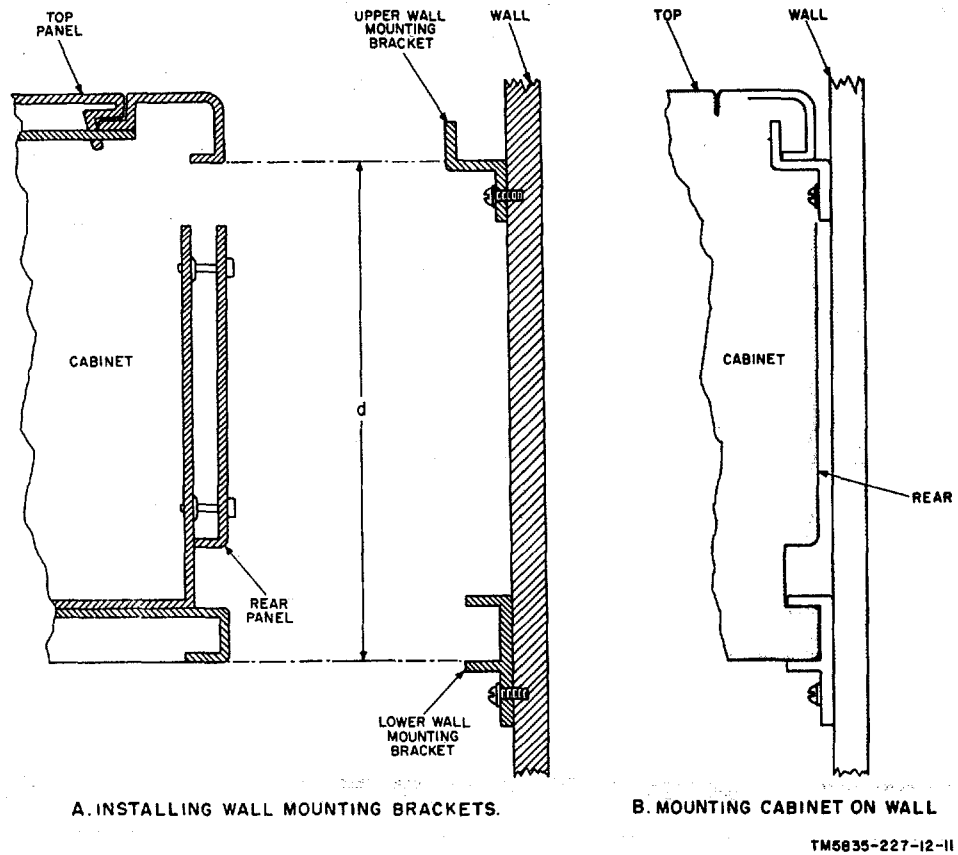

Figure 14. Recorder-Reproducer Set, Sound AN/GSH-17 wall installation.
b. To wall mount the recorder-reproducer set, refer to figure 14 and proceed as follows:
- (1) Locate the brackets in accordance with the installation instructions for the vehicle in which it is to be installed.
- (2) Make a measurement of dimension d (A, fig. 14) at the rear of the cabinet.
- (3) Determine the wall location (height above floor) for the upper bracket, and, using the upper bracket as a template, scribe three marks on the wall at the desired position and center punch for drilling. Make sure that the three markings are horizontal (level).
- (4) Drill holes with a No. 7 drill bit.
- (5) Tap the holes with a size 1/4 inch by 20 tap.
- (6) Mount the upper wall bracket as shown in A, figure 14; use three size 1/4 inch by 20 bolts and washers and tighten securely.
- (7) Use the measurement obtained in (2) above, and locate the position of the lower wall bracket by referring to A, figure 14. Be sure to position the lower wall bracket vertically in line with the upper bracket.
- (8) Use the lower wall bracket as a template (at the position determined in (7) above), and scribe three marks on the wall and center punch for, drilling. Make sure that the three marks are horizontal (parallel to the upper wall bracket). Repeat the procedure given in (4) and (5) above.
- (9) Mount the lower wall bracket as shown in A, figure 14; use the hardware described in (6) above.
- (10) Lift the recorder-reproducer set to a position which places the upper wall bracket in line with the opening in the top rear of the cabinet (A, fig. 14). With the cabinet tilted (bottom away from wall), slowly move the cabinet toward the bracket until the upper wall bracket engages the top-rear lip of the cabinet as shown in B, figure 14. Make sure that the two surfaces are fully engaged. Push the bottom of the cabinet against the wall to engage the lower wall bracket with the lower lip at the cabinet rear, as shown in B, figure 14.